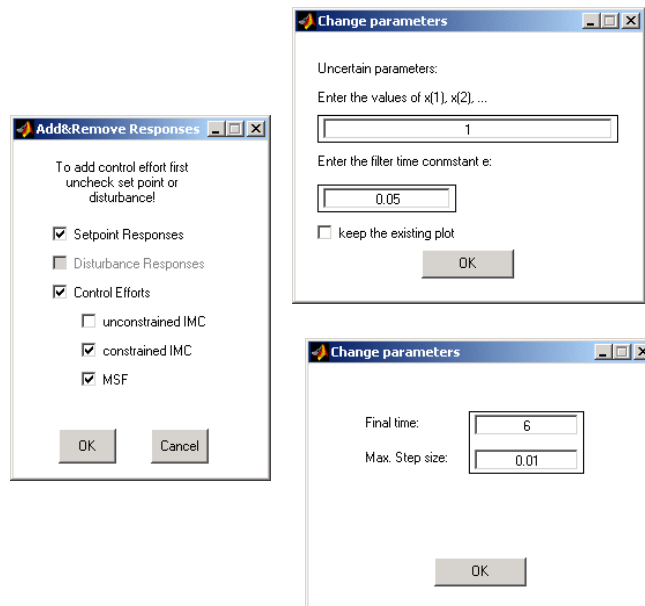
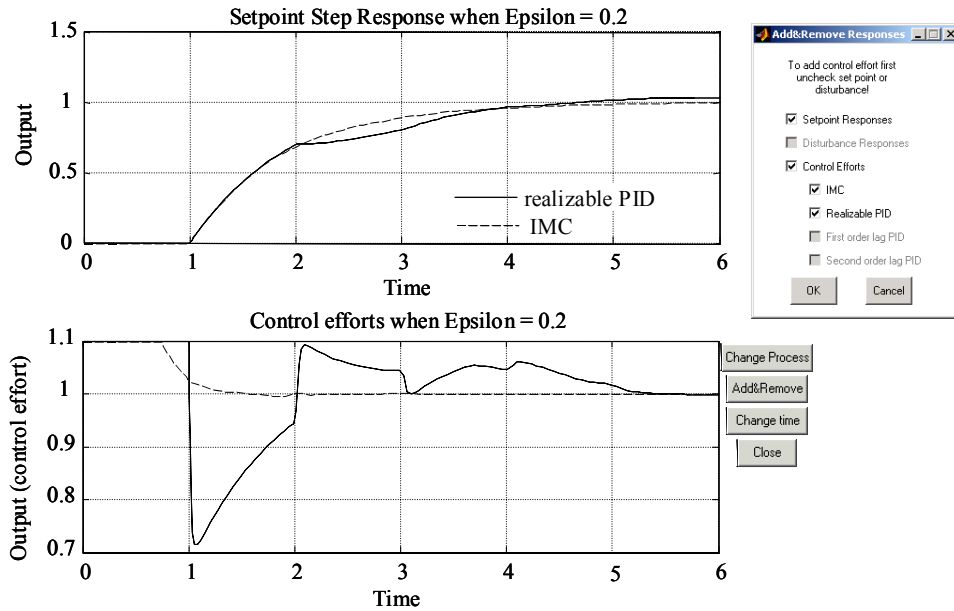

Figure G.11b Screens associated with the buttons of Figure G.11a.
Figure G.12 IMC and PID step responses.
- IMC & PID step responses: Provides, and allows comparison of, IMC and MSF step setpoint and disturbance changes as shown in Figure G.12.
The model and IMC controller in Eq. (G.5) are the same as for Equations (G.2) and (G.3), but the process has no uncertainty so as to show up the difference between IMC and MSF responses. Also, the control effort is constrained as shown. The button windows in Figure G.12 are the same as for Figure G.11b, except for the *add and remove* window, which is shown on the figure.